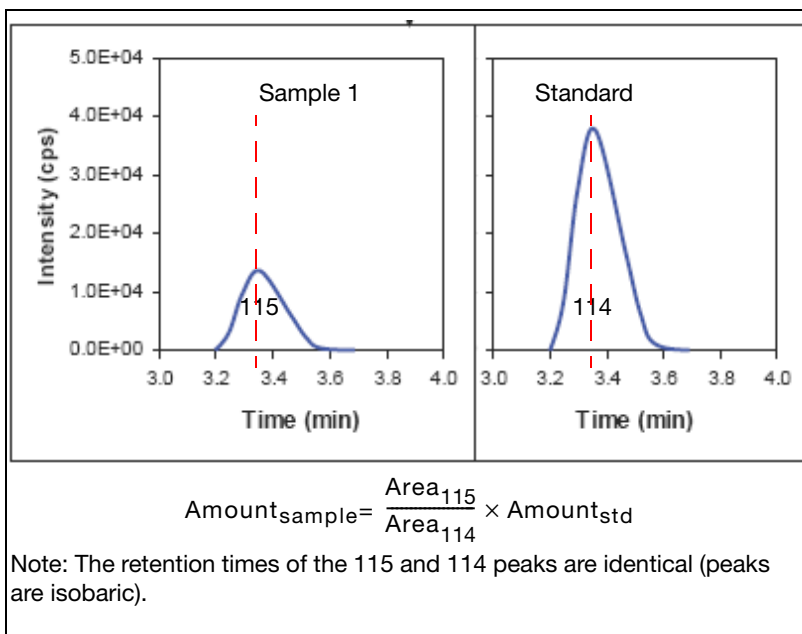

Figure 1 Representation of LC/MS/MS data showing isobaric peaks and the calculation for absolute quantitation
With Cliquid® Software for Routine Amino Acid Analysis, the AB SCIEX Amino Acid 45/32™ Analyzer system allows users with minimal mass spectrometry (MS) experience to obtain data for relative and absolute quantitation of amino acids (Figure 1).